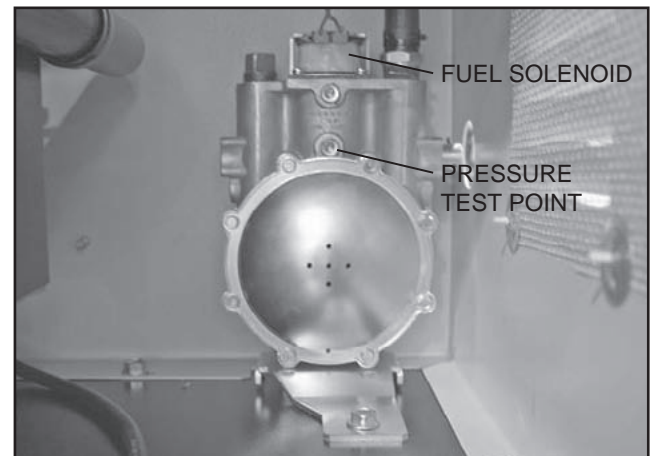

Figure 18. Fuel Solenoid and Pressure Test point on 6/7 kW Unit
1. Install a manometer to the bottom pipe fitting on the fuel regulator. See Figure 18 or 19.